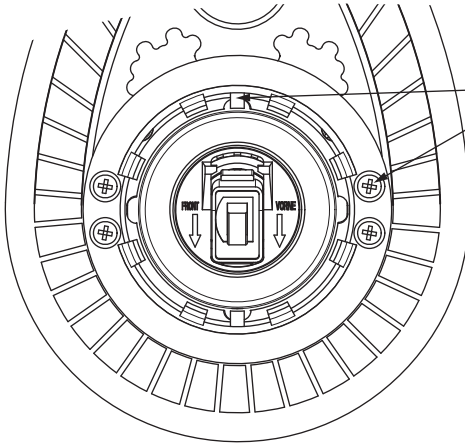

Fig.6g
**IMPORTANT:** Make sure the 4 screw holes of the grip ring are horizontal & the two longer tabs are vertical (see fig.6g & 6h).